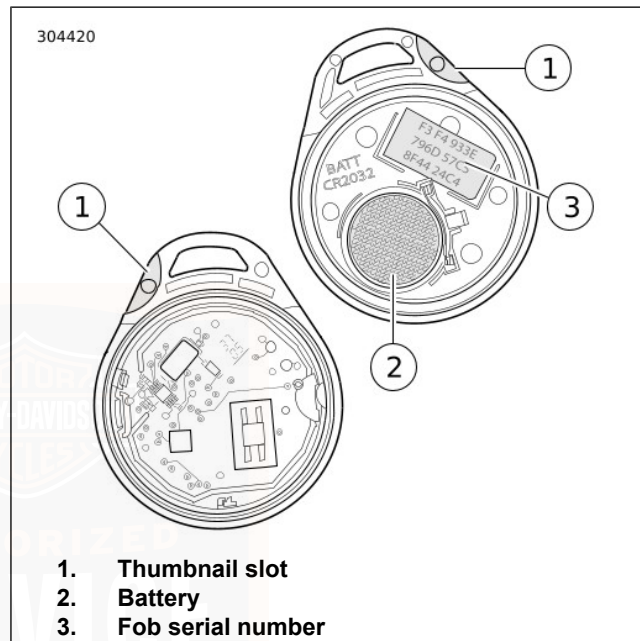

Figure 43. Fob Battery
1. See Figure 43. Slowly turn a thin blade in the thumbnail slot (1) on the side of the fob to separate the two halves.
2. Remove the battery (2) and discard.